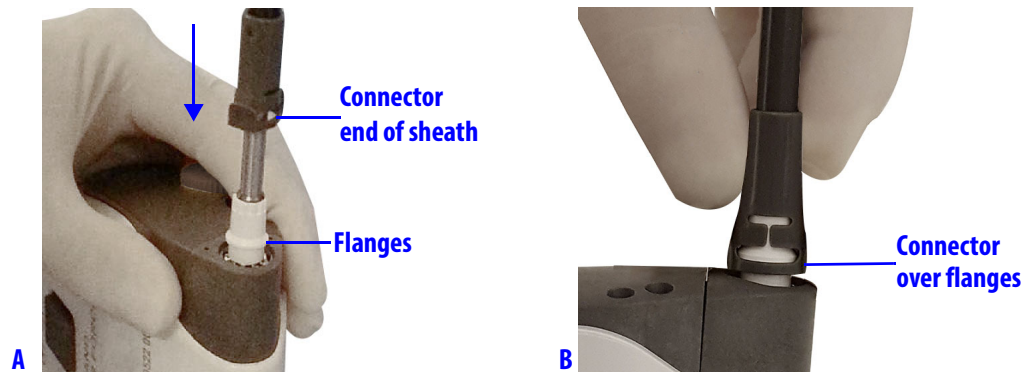

Figure 3.4 Pull sheath down the shaft toward housing (A) until it is over the flanges on instrument shaft (B)
3. Pull the sheath down the shaft toward the instrument housing. Press down the connector end of the sheath until it is over the flanges on the base of the instrument shaft, and there is a tactile and audible click (Figure 3.4 A and B).